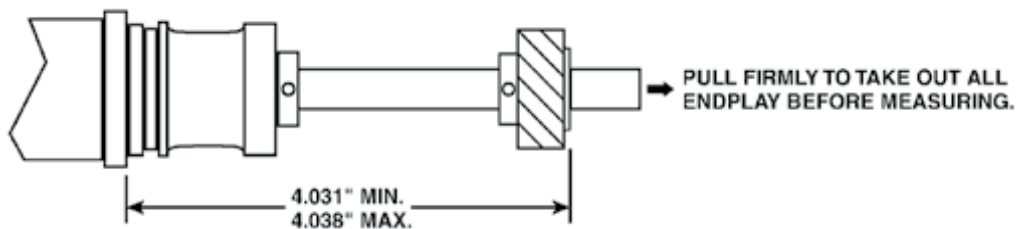

Fig. 1
STEP 6: Pull distributor shaft out of distributor housing to eliminate endplay (see Fig. 1).
STEP 7: Check location of distributor gear on distributor shaft (see Fig. 1). If it is not in the correct location, use a press to move the gear to the correct location.
NOTE: It is important that the dimensions called out in Figure 1 are maintained while drilling.
STEP 9: Insert roll pin and check dimensions (see Fig. 1).